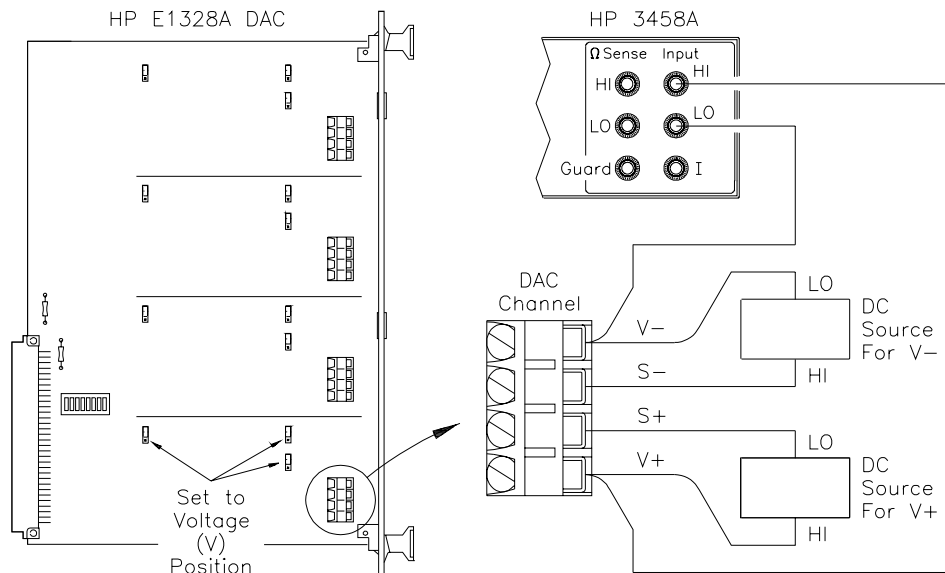

Figure4-1. Voltage Compliance Test Connections
Connect the DC source (Datron 4708 with Option 10) and HP 3458A multimeter to Channel 1 as shown in Figure 4-1. (Be sure to set all three jumpers on the channel to the V position.) Set the DC source output to +5.0 V dc. Set the HP 3458A to DCV function and set NPLC 100.
2. Connect DC Source and HP 3458A to Channel 1 (see Figure 4-1)